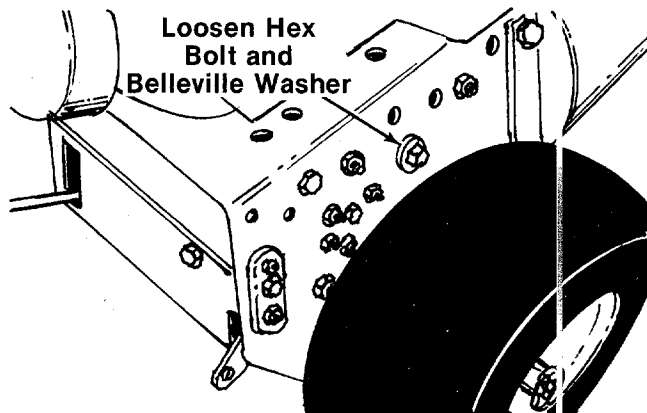

FIGURE 3.
3. To assemble the handle, loosen one self-tapping screw and belleville washer on each side of the unit. See figure 3. A 9/16" wrench or adjustable wrench is required.